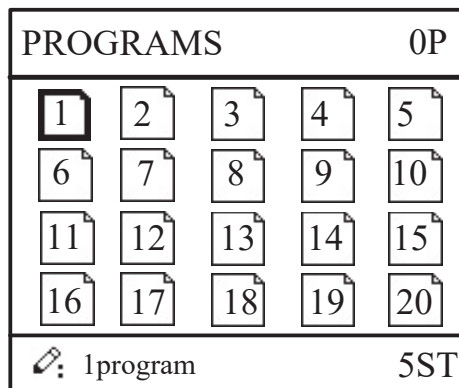

Figure 2-4 Program management page
Step 2 Click , switch to program manage page, as shown in Figure 2-4.